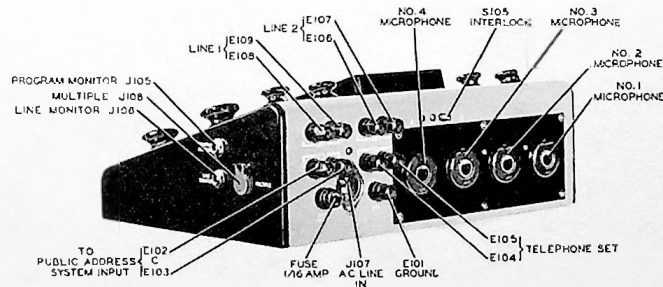

Figure 2-1. 212Z-1 Remote Amplifier, Connections
- Plug a headset into PROGRAM MONITOR jack, J105. (See figure 2-1.)
3.1.1 CONNECTIONS. Refer to figure 2-1.